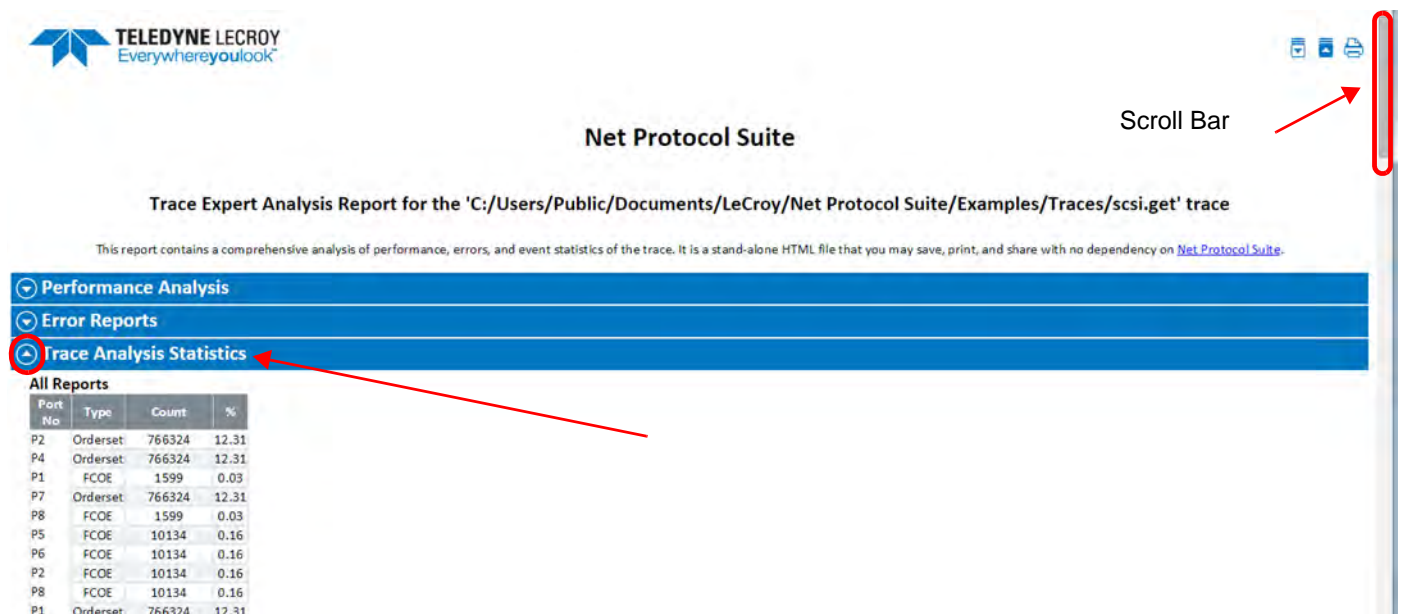

Figure 5.109: Example Trace Analysis Statistics
- To view the Trace Analysis Statistics, click its  expansion icon (Figure 5.109).